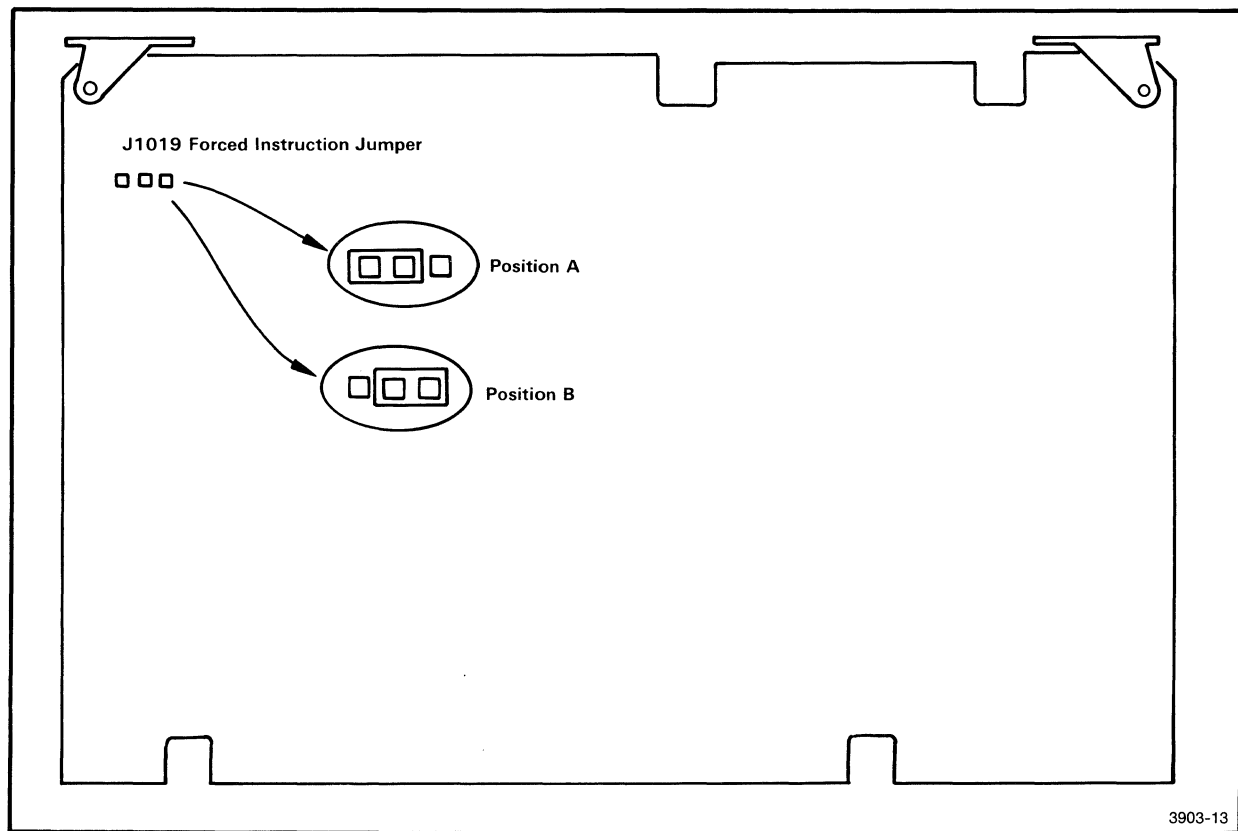

Fig. 4-1. Forced-Instruction Jumper.
The PROM Programmer Controller has only one jumper, located on the Controller Board: the Forced-Instruction Jumper (J1012). Figure 4-1 shows the location and settings of the Forced-Instruction Jumper. In the normal position (position A), this jumper enables the 8085A's RD(L) control line. In the forced-instruction position (position B), this jumper causes the 8085A to execute a continuous sequence of NOP instructions. The forced-instruction position is used to test the processor address lines.